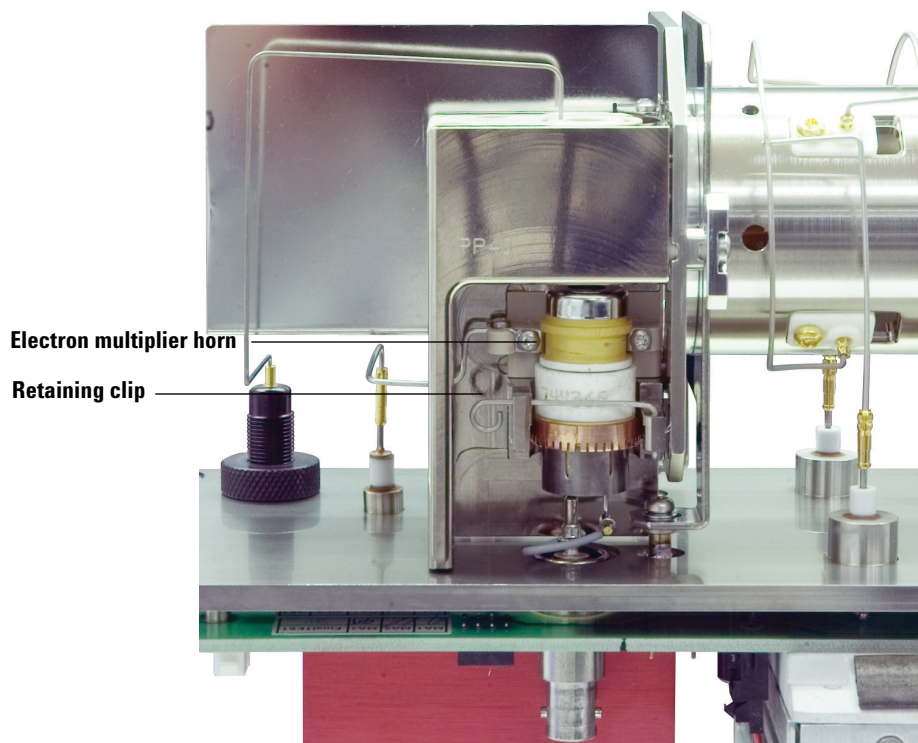

Figure 26 Replacing the electron multiplier horn
- 3 Open the retaining clip (Figure 26). Lift the arm of the clip up and then swing the clip away from the electron multiplier horn.